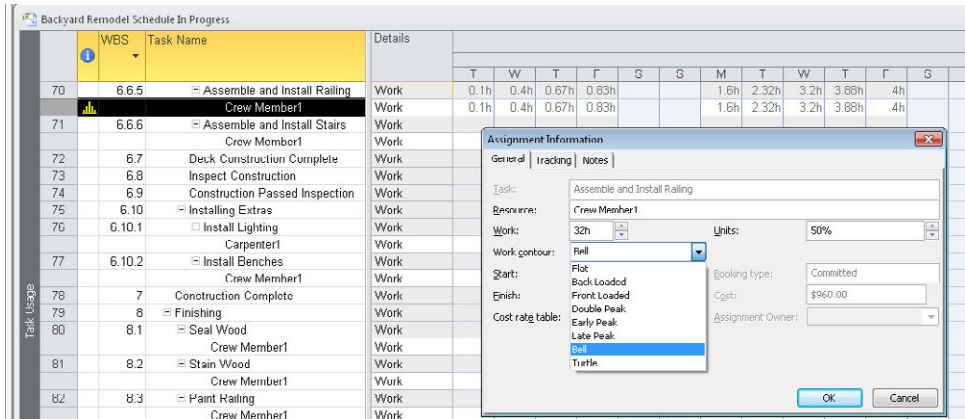

FIGURE 13-4 Work contours adjust the allocation of work for resources over the duration of the assignment.
The Work Contour feature in Project changes the allocation of resources over the course of their assignments. For example, you can apply the Bell work contour, which starts someone's assignment slowly, increases to a higher allocation in the middle and then tapers off the assignment at the end, as demonstrated in Figure 13-4. Contouring tasks can help you optimize your schedule by modeling assigned time more realistically. For example, the work that people have to do on a task often dwindles at the end, so you might be able to start a new assignment before the previous one is complete without overallocating anyone.
2. For the task whose assignment you want to contour, double-click the name of the resource, Crew Member in Figure 13-4.